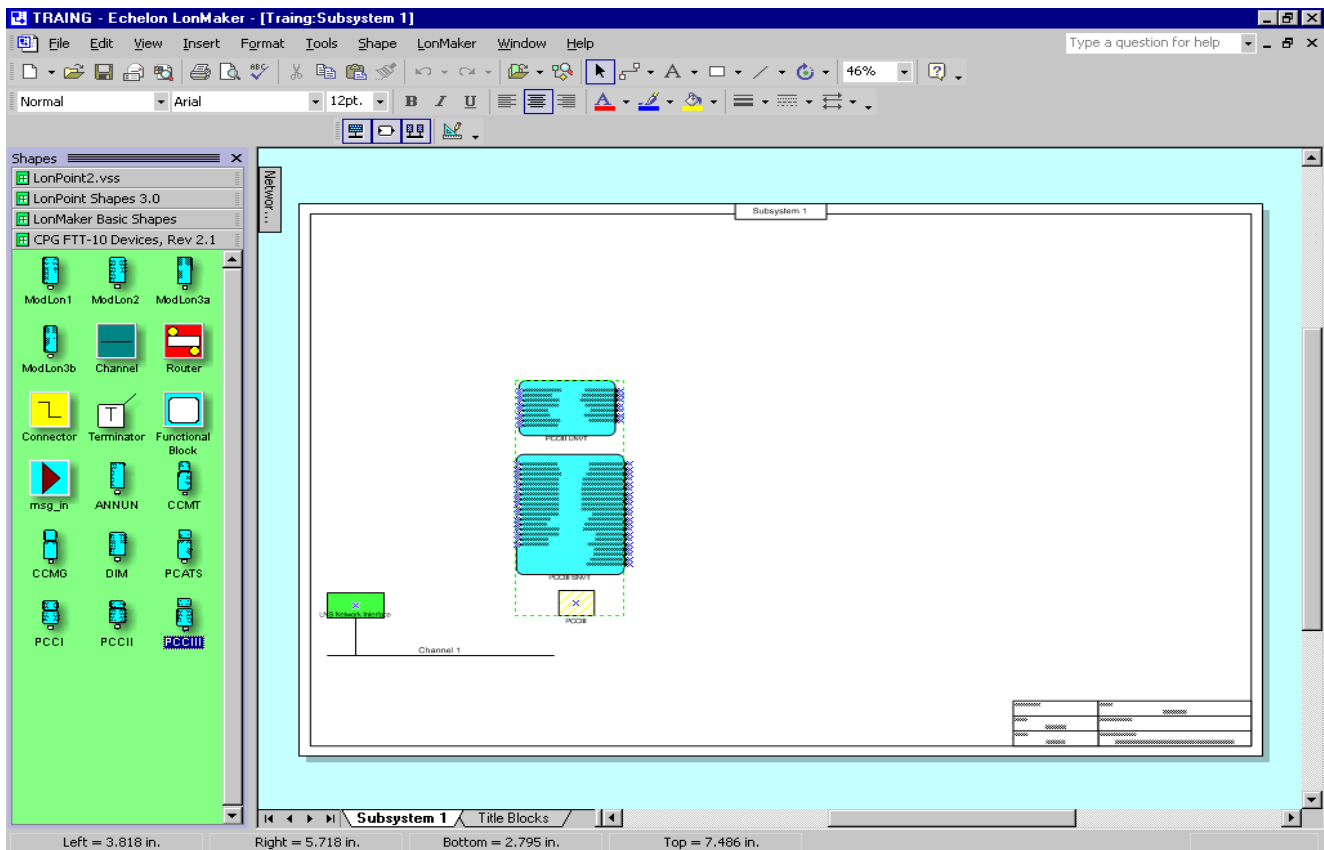

FIGURE 4-11. ADDING A DEVICE TEMPLATE
1. Click on a master shape/device template and drag it into the drawing (see Figure 4-11). Device templates include the device icon and functional block(s). A complete list of the master shapes and device templates is shown in Tables 4-1 and 4-2.